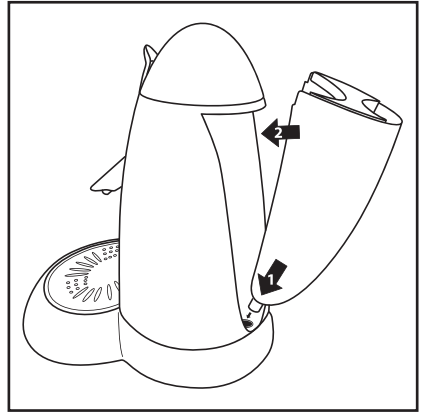

FIGURE 4
2. Fill the Water Tank with fresh water up to the 'MAX' line, and fit back into the Base (down and in) until it "snaps" into place, see Figure 4.